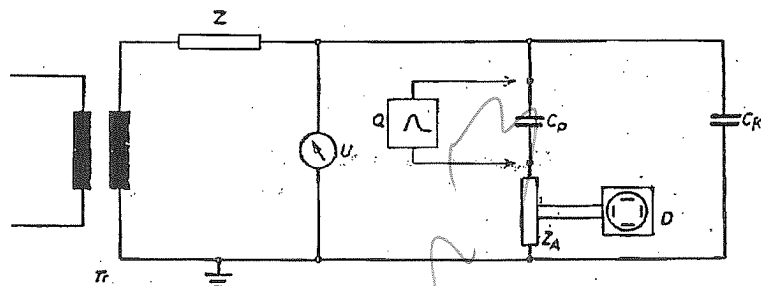

Fig. 9 Test Connection
b) Test connection coupling quadripole series connect- ed with test loops (see Fig. 9).